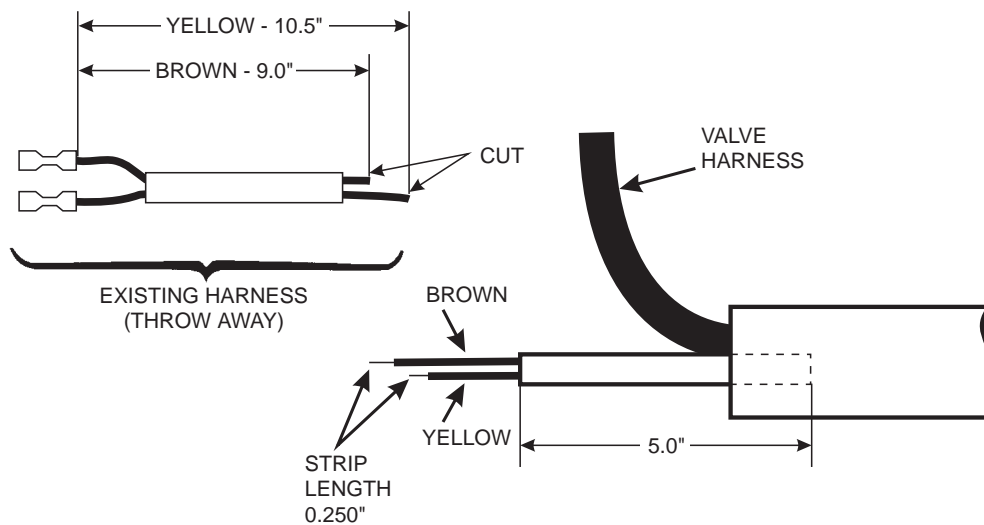

Figure 1
4. Disconnect the harness from the heater terminals and cut the wires to length as shown in figure 1. You will have to remove the harness from the wire clamp to do this.